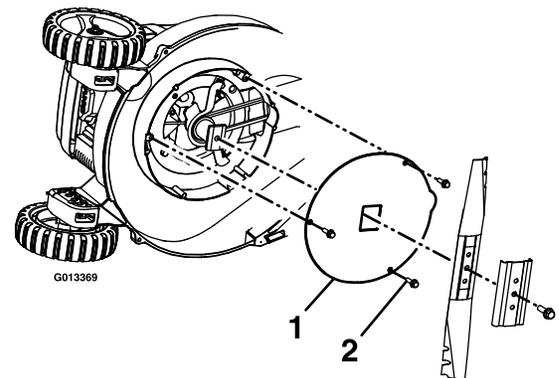

Figure 32
5. Remove the blade bolt, blade support, and the blade (see Figure 32).
6. Remove the three screws holding the cover plate onto the unit (see Figure 32).